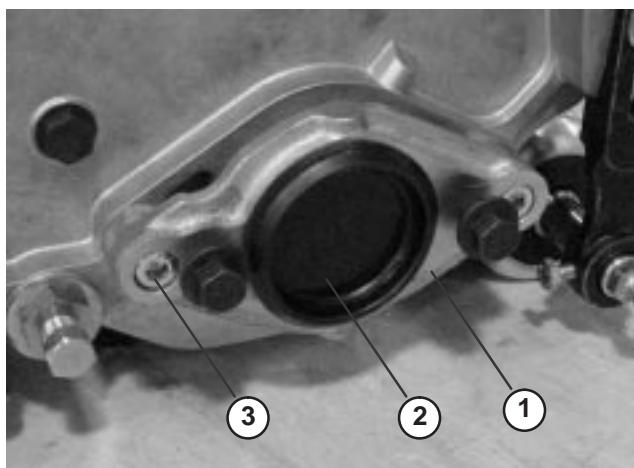

Figure 6
- B. On right end of cutting unit, remove plastic plug from bearing housing (Fig. 6).
- C. Remove the 2 allen head screws securing the motor mount to the right end of the cutting unit. Remove the motor mount (Fig. 6).
- F. Install the motor mount to the left end of the cutting unit with the (2) allen head screws previously removed (Fig. 6). Torque screws to 12–15 ft-lbs. (16–20 N·m).